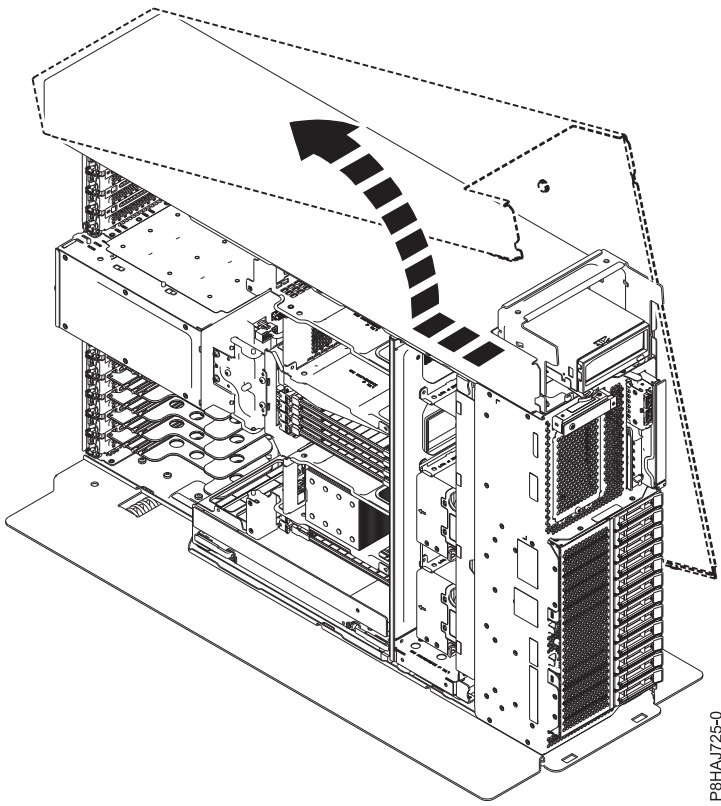

Figure 135. Removing the 8286-41A side cover
5. Slide the side cover off of the system in the direction that is shown in Figure 135 on page 153.